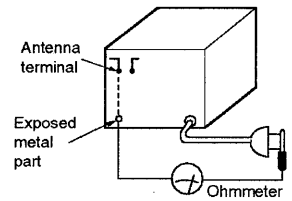
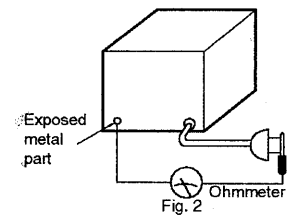

Fig. 1
Fig. 2
3. Measure the resistance value with ohmmeter between the jumper AC plug and each exposed metal cabinet part, such as screwheads, antenna, control shafts, handle brackets, etc. Equipment with antenna terminals should read between 3MΩ and 5.2MΩ to all exposed parts*. (Fig. 1) Equipment without antenna terminals should read approximately infinity to all exposed parts. (Fig. 2)